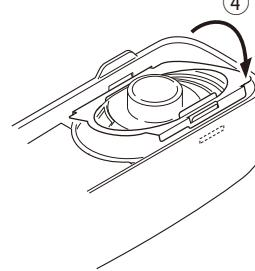

Fig. 7-3 / 图 7-3
1. Insert two tabs of the holder (J19-5485-12) into the hollows in the top of the panel. (①)
2. Push the two tabs of the holder in on the opposite side of those in step 1 above and fit them into the hollow in the bottom of the panel. (②)
3. Install the speaker holder onto the panel. (③)
6. Insert the hardware fixture (J21-8481-03) into the hollow of the panel as shown in Figure 7-3, then push two parts of the hardware fixture and fit it into the hollow of the top of the panel. (Fig. 7-3 ④)
6. 如图 7-3 所示，将硬件夹具 (J21-8481-03) 插入面板凹槽，然后推动硬件夹具的两个部分并将其卡入面板顶部的凹槽。 (图 7-3 ④)